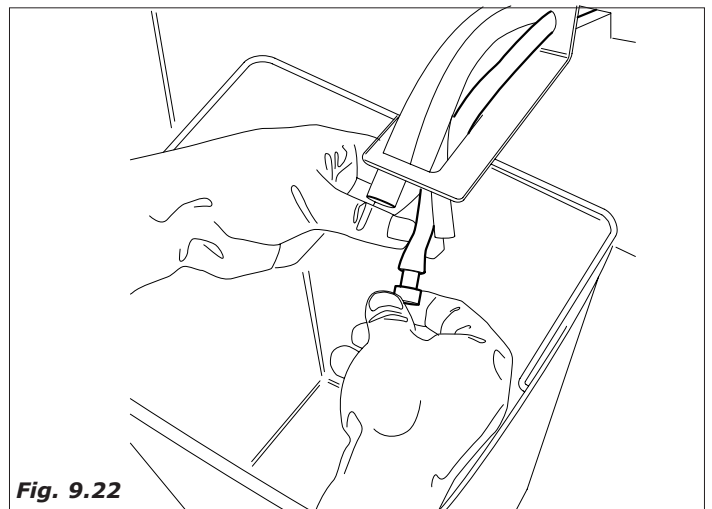

Fig. 9.22
- Put the plug back in once the draining has been done. (*Fig. 9.22*).